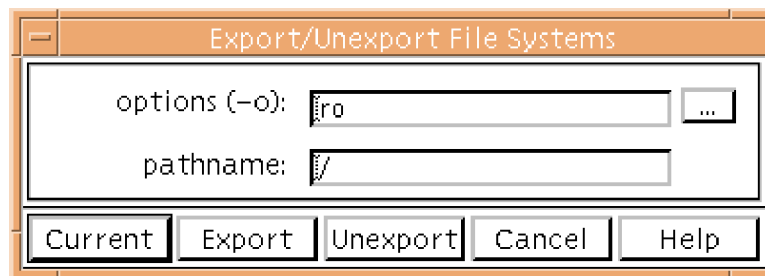

Figure 12. Export/Unexport File Systems Window
Used to export or unexport a file system in order to allow or deny file system sharing. Select the **EXPORTFS** option to open the Export/Unexport File Systems window (Figure 12).
- STEP 1: Select a file system.** Click on a file system in the list in the Disk Manager window to highlight it and then click on the EXPORTFS button. The Export/Unexport File Systems window appears (Figure 12).